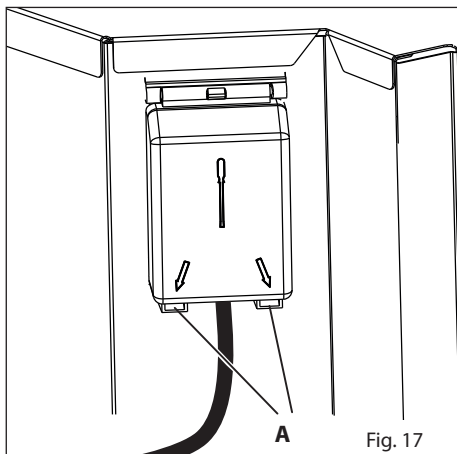

Fig. 17
- Unhook the terminal board cover by inserting a screwdriver into the two hooks "A" (fig. 17).